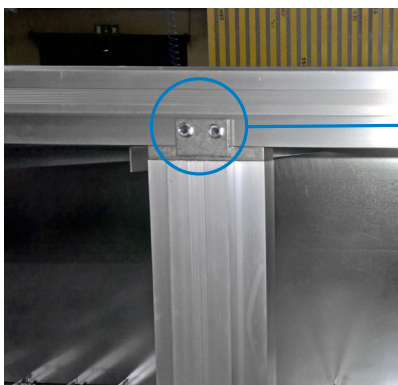

Figure 8
- unscrewing the fixing screws (Figure 8)